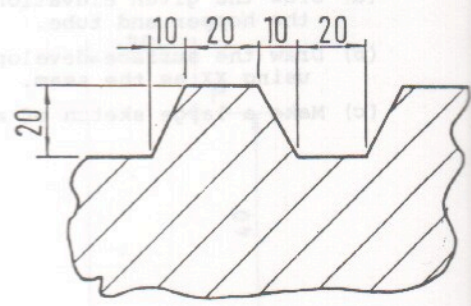

FIG. 7 FÍOR 7
5. (a) A right hand, helical, single start screwthread, to the form shown in Fig. 7, is to be cut on a bar of diameter 120 mm. Draw two revolutions of the screwthread. Pitch 60 mm.